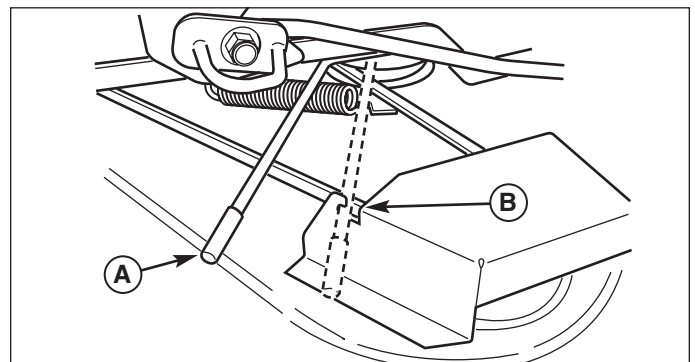

Figure 27. Release Belt Tension
2. Raise the mower deck to transport position. Pull the belt tension lever (A, Figure 27) towards the rear of the machine to release tension on the mower belt. Secure the lever in the guard notch (B).